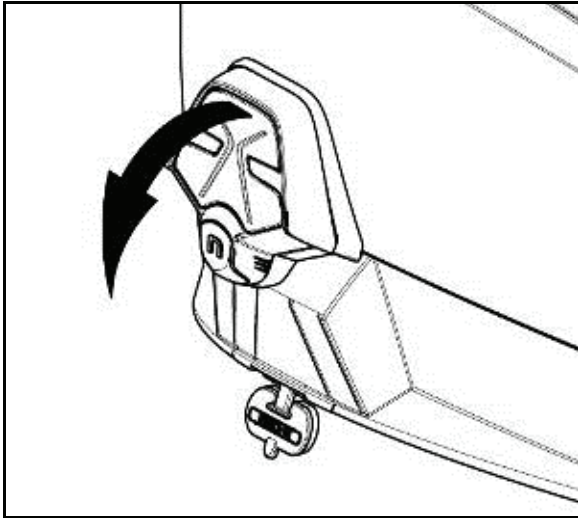

Fig. 10
- Remove the ESS light from the shell (Fig. 10).